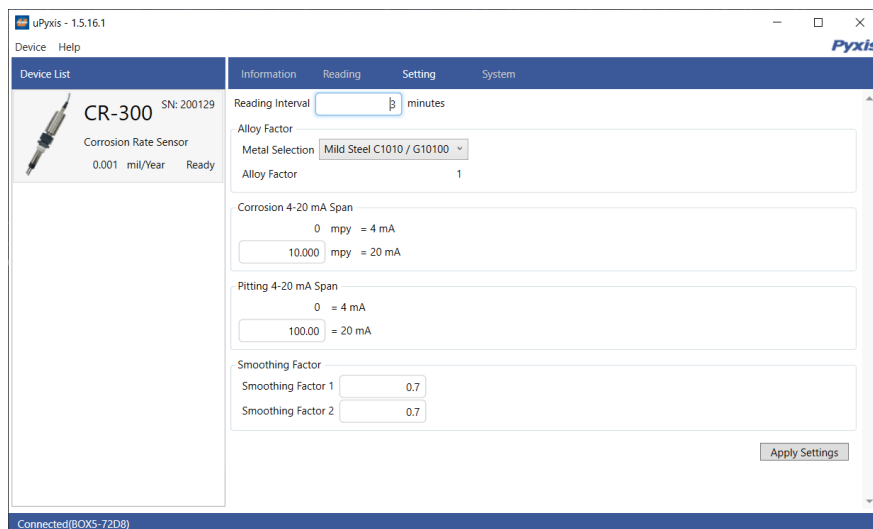

Figure 29.
3. On **uPyxis®** Desktop App, click Device→ **Connect via USB-Bluetooth** (Figure 29).
4. If the connection is successful, the CR Series and its Serial Number (SN) will be displayed in the left pane of the **uPyxis®** window.